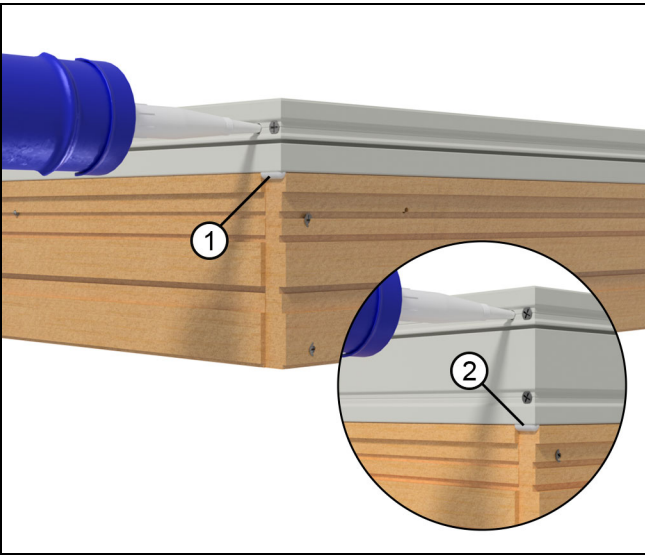

Figure 9
3. Use the remaining hole in the head jamb cladding to inject the keys. Inject until you see squeeze out in the image shown below. See Figure 9.